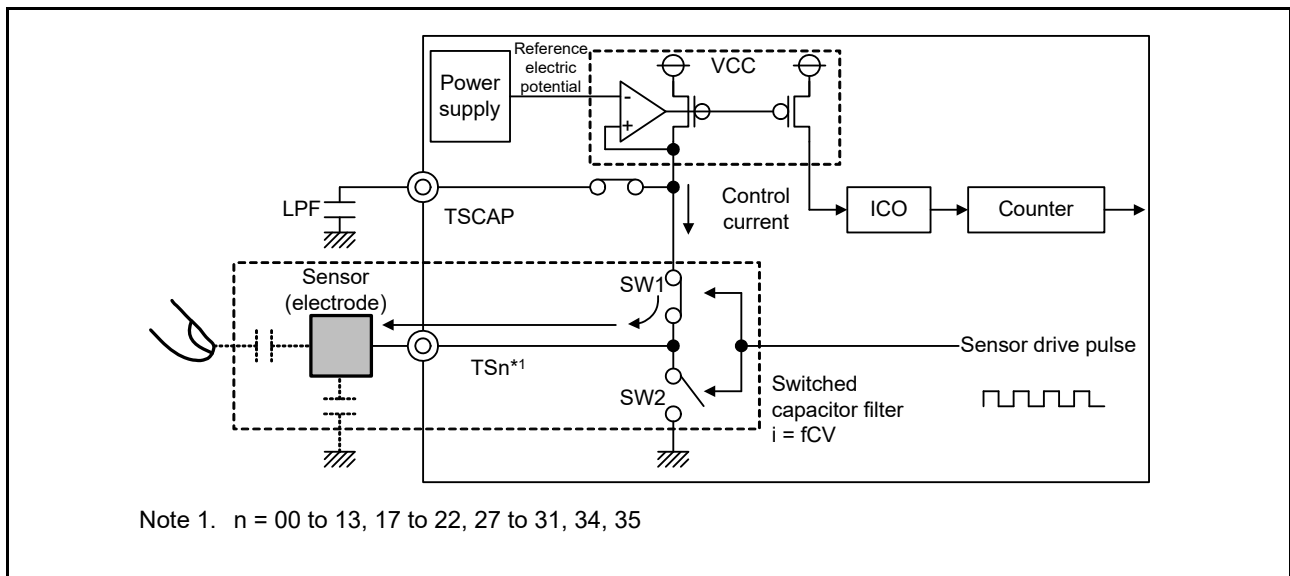
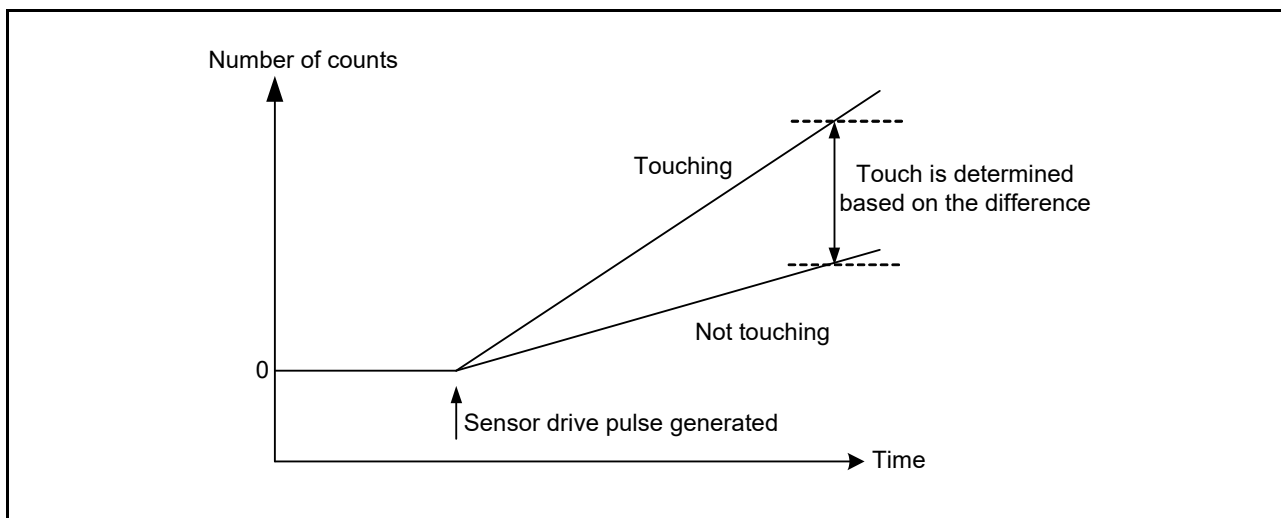

Figure 41.5 Charging operation
Figure 41.7 Change in measured value when finger is touching and not touching
Figure 41.5 to Figure 41.7 explain the electrostatic capacitance measurement operation principles of the CTSU current frequency conversion method. The operation is as follows:
1. The electrostatic capacitance of the electrode is charged by turning SW1 on and SW2 off (Figure 41.5).
3. Current flows to the switched capacitor filter by repeatedly charging and discharging the electrodes as in steps 1. and 2. At this point, if a finger is in close proximity, the capacitance and the flowing current change. A clock is generated by supplying the control current, a current that is proportional to the amount of the current flowing through the switched capacitor filter, from the circuit that generates the TSCAP power supply to the ICO. The counter measures the clock frequency that changes depending on whether a finger is in close proximity. Software uses the value read from the counter to determine contact with a finger (Figure 41.7).